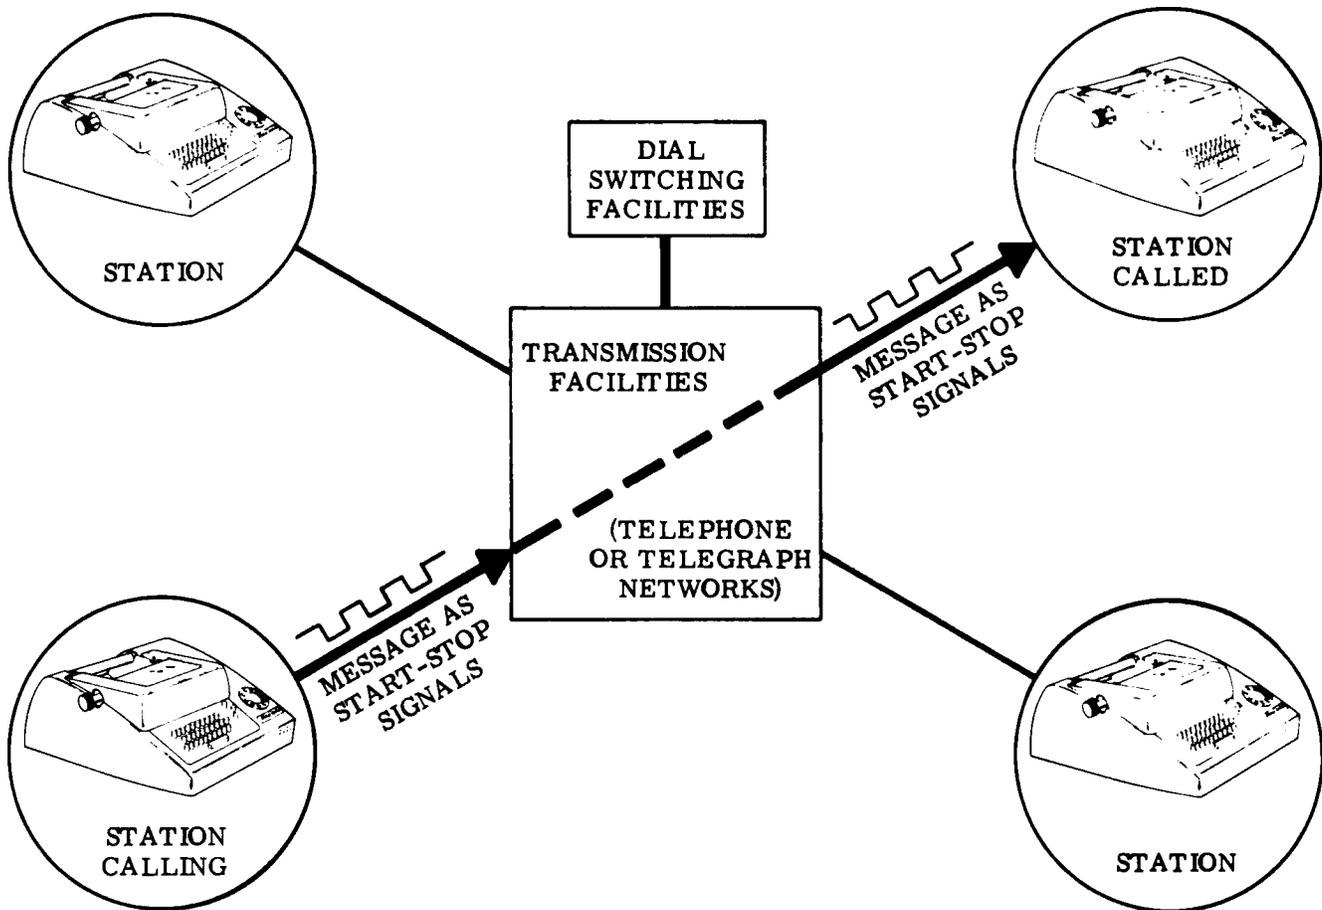

Figure 5 - Typical Applications
5.01 The following is a brief description of how 32 teletypewriter sets equipped with call control and answer-back features, may be used in a typical communication system (Figure 5). When a call is to be made, an operator uses the controls on the teletypewriter set to gain access to the system switching and transmission facilities, which may be dial telephone or telegraph networks. The operator then dials the number of the called station.